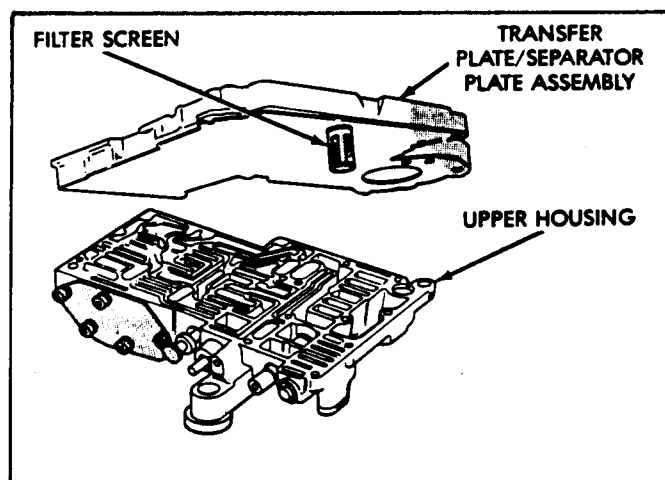

Figure 97
10. Install the assembled transfer plate and spacer plate on the upper housing as shown in Figure 97.